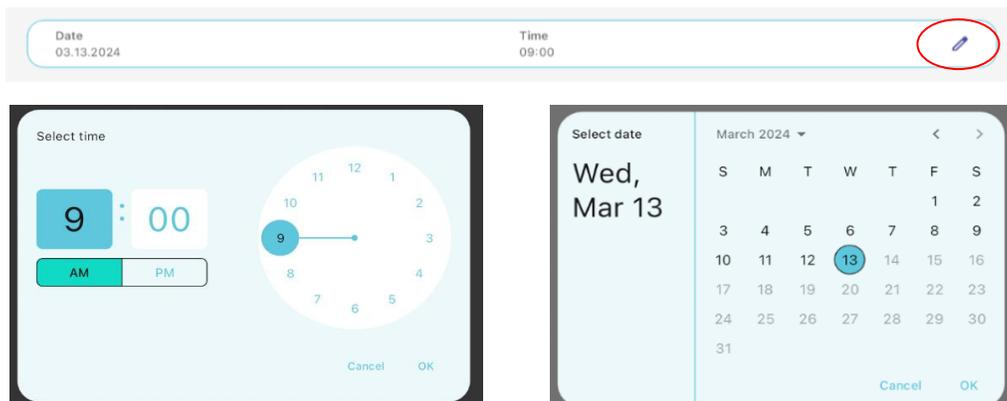

Figure 40. Edit Event (Clinician)
10. Edit the date and time of each event by selecting an event from the Ongoing Study page and then selecting the pen icon. An example for editing the date and time is shown in Figure 40. After selecting the pen icon, you can modify the time or other data fields and save the changes. To do this, it will require a comment to justify the change to the event.